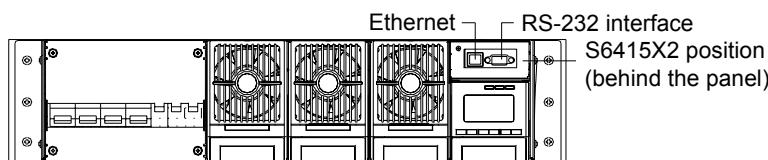
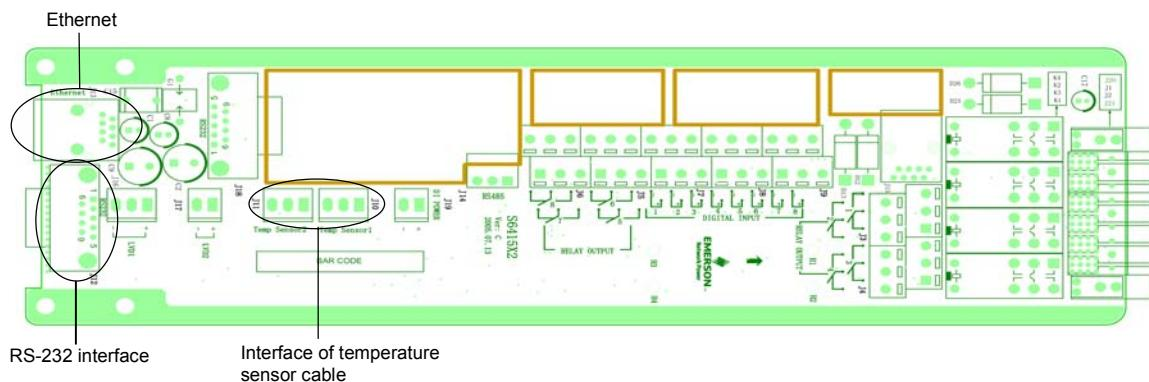

Figure 2-11 S6415X2 position
Figure 2-13 S6415X2 interfaces
The position of S6415X2 signal transfer board is shown in Figure 2-11. There are two communication interfaces in the panel: Ethernet and RS- 232 interface. The power supply system can be connected to Ethernet through the Ethernet interface or connected to modem through RS- 232 interface.
2. Connect one end of the communication cable to the 'RS- 232' DB25 (female) interface, and the other end to J13 interface (DB25, male) of the S6415X2 board, as shown in Figure 2-11 or in Figure 2-13.
1. Connect the three-pin plug of the temperature sensor cable to the J10 or J11 socket of the S6415X2 signal transfer board, as shown in Figure 2-13.